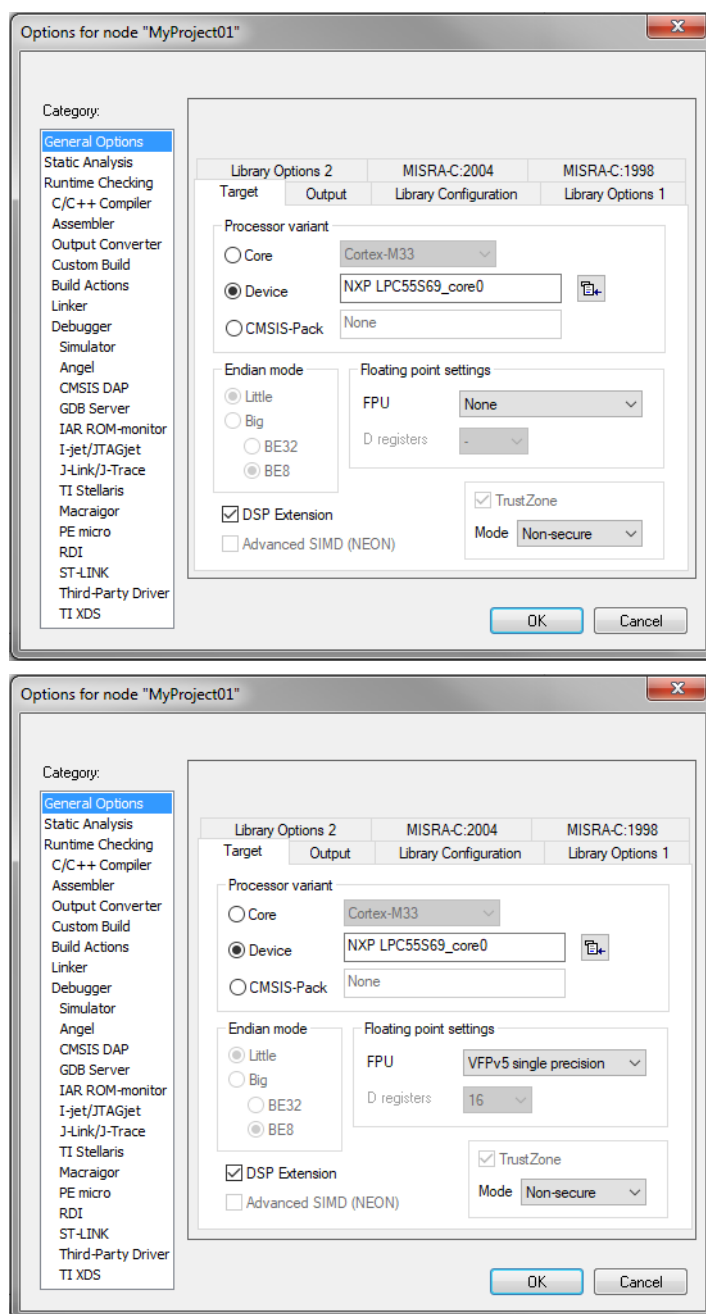

Figure 1-39. Options dialog
6. In the Target tab, select the Device option, and click the button next to the dialog to select the MCU. In this example, select NXP > KV4x > NXP MKV46F256xxx15. Select None in the FPU option. > LPC55S69 > NXP LPC55S69_core0. Select NoneVFPv5 single precision in the FPU option. The DSP instructions group is required please check the DSP Extensions checkbox if not checked. Click OK. See Figure 1-39.